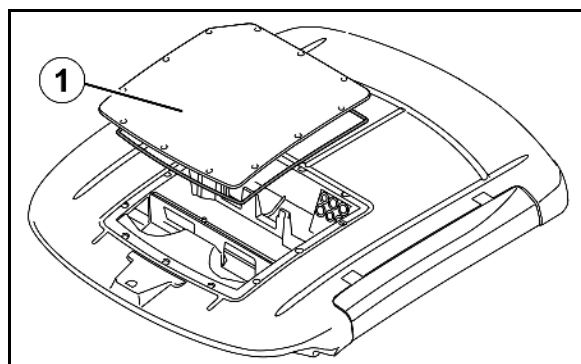

Fig. 170
1. Unscrew the hood (Fig. 170/1) from the cabin roof.